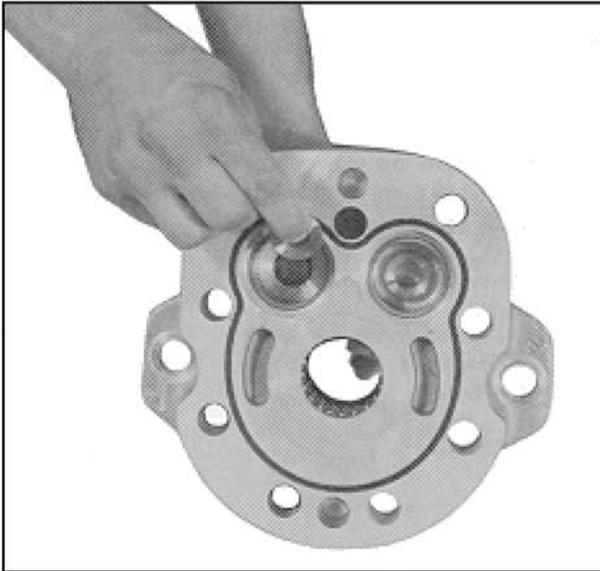

FIGURE 12
14.) The step bearing that remains in the front end cap should be taken out and inspected. There is an O-ring and Teflon back-up ring under this part. (Fig. 12)